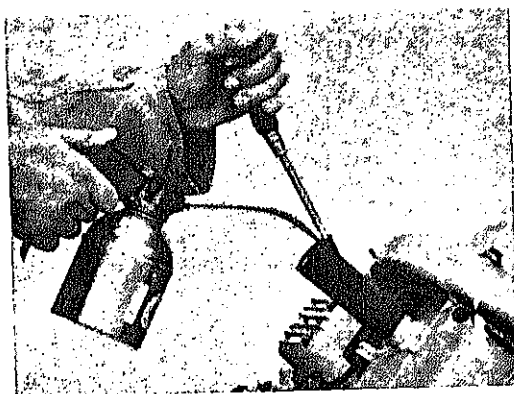

Fig. 3 Removal of the rubber grip is facilitated by entering a screw-driver between the rubber and the light metal and pouring in a few drops of oil.
- Remove one of the rubber grips. This is facilitated by pouring a few drops of oil between the rubber grip and the light-metal handle Fig. 3